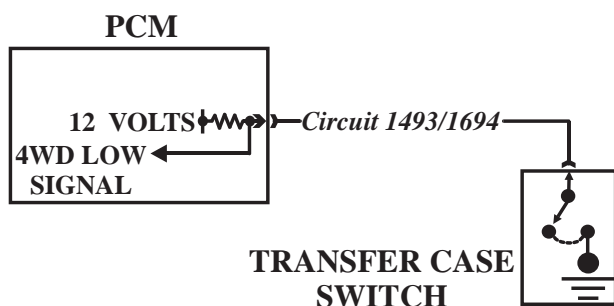

Figure 63
- The Four Wheel Drive Low Switch is located in the front transfer case housing next to the shift linkage. Refer to Figure 63 when using these diagnostic steps.